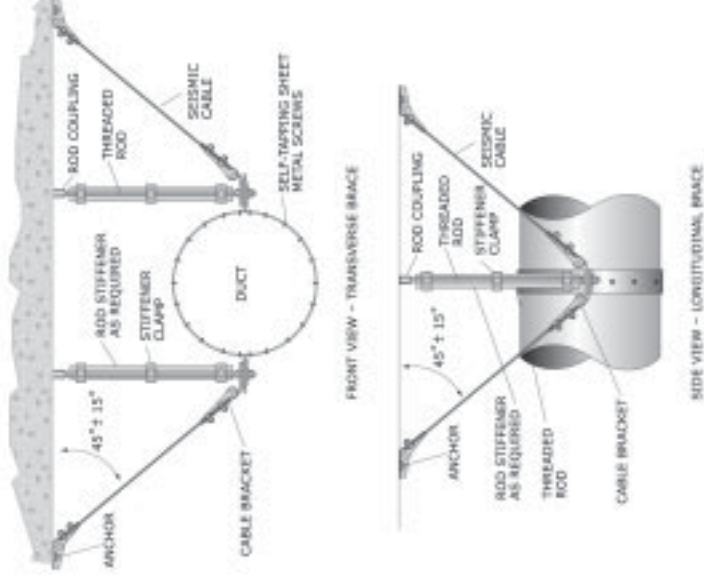

Figure 38: Round duct with vertical rods and braced with cables (transverse and longitudinal).
**Cable bracing requires bracing in both directions as shown in Figure 38 (above).**